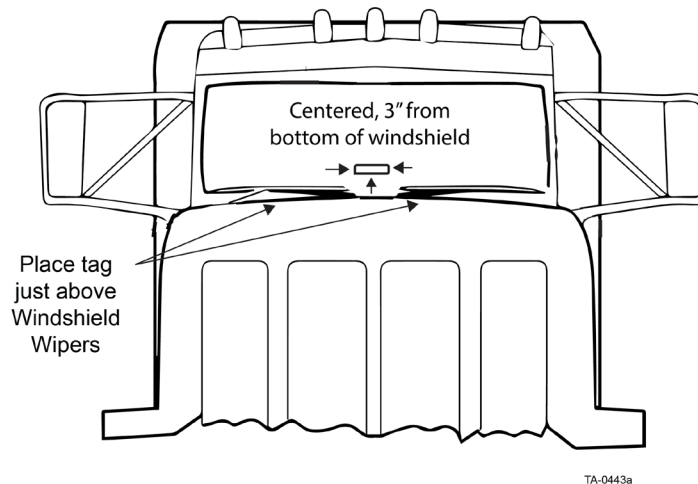

Figure 2 – Placement on one-piece windshield
1. If the vehicle has a one-piece windshield, the NP2 should be mounted as close to the bottom center of the windshield as possible; at least 3 inches away from the windshield frame or dashboard, and above the windshield wipers (Figure 2).